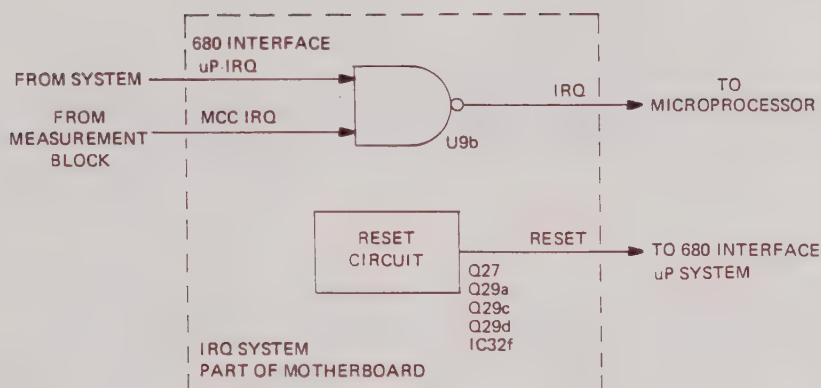

Figure 5.7 - IRQ Block Diagram
5.3.5.1.1 This block generates reset signals for the microprocessor and GPIB interface, and the standby switching signal for the power supply system. It also combines the IRQ signals from the GPIB interface, the measurement block, and the keyboard block for connection to the microprocessor. A block diagram is given in Figure 5.7.